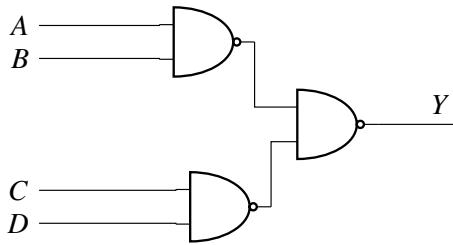

Fig. 3.20
37. In the logic circuit shown in Fig. 3.20, Y is given by